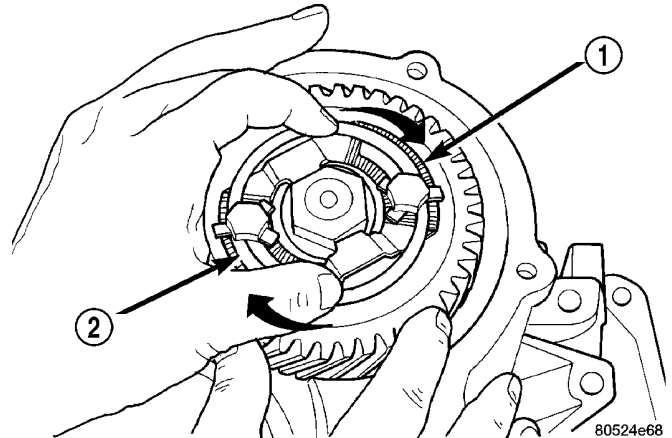

Fig. 146 Turn Stirrup Clockwise Against Flats Of Retaining Nut
- (1) Position the stirrup on the output gear.
- (2) Position strap.
- (3) Install retaining bolts into output gear. Finger-tighten bolts.
- (4) Turn stirrup clockwise against the flats of the output gear retaining nut (Fig. 146).